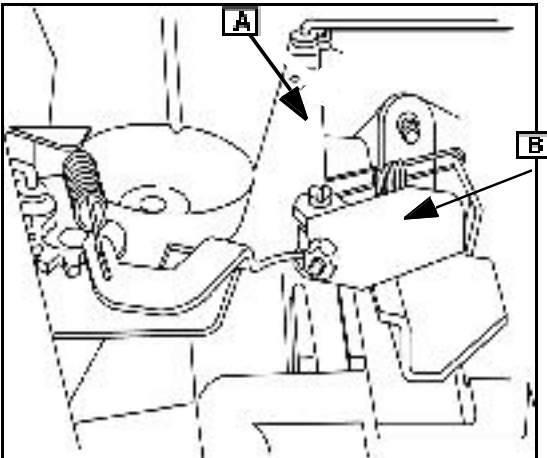

Fig. 31
**NOTE: (161432 Type 0080-01)** When assembling governor lever assembly (A), ensure that tab on strike plate ([B] Fig. 31) is between upper and lower half of lever clamping area.